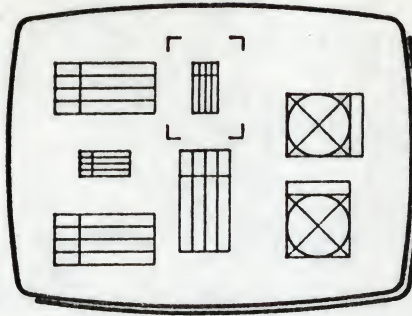

Fig 1
- 2 Press and release L or R to select a unit for modification (Fig 1).